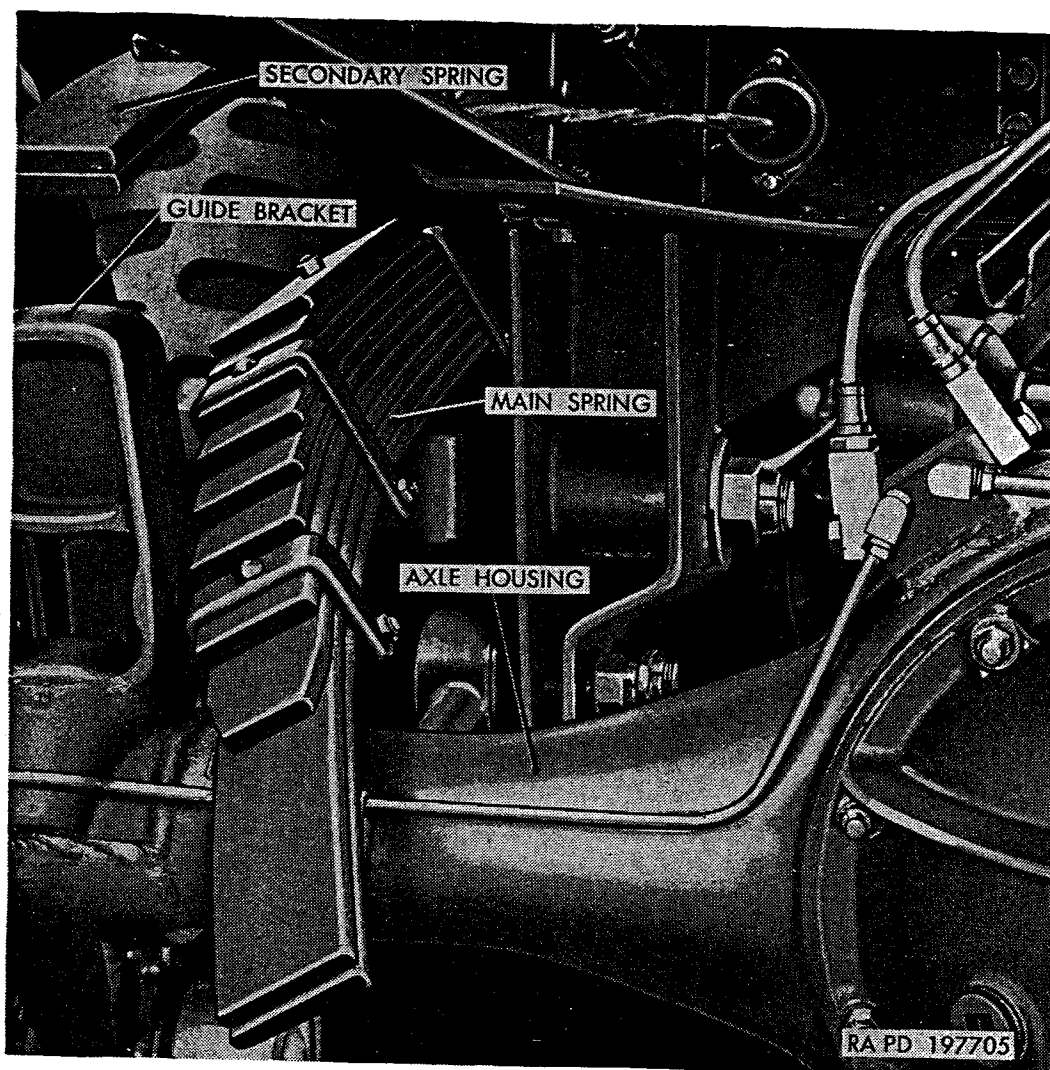

Figure 294. Main spring removal.
- (8) Tilt spring sidewise and withdraw out over rear rear axle housing past inside of spring guide bracket (fig. 294).
- (1) Raise forward rear axle with a jack until tires clear ground. Position spring over rear rear axle housing (fig. 294). Slide front end of spring into spring guide bracket on forward axle. Rotate rear spring guide bracket with a pry bar to allow rear end of spring to enter rear spring guide.